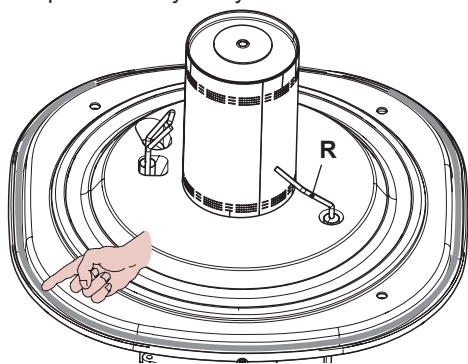
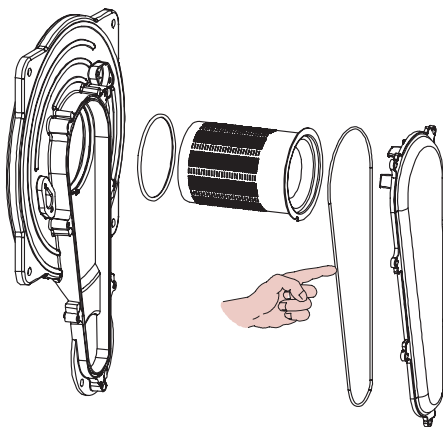

Fig. 10.10
Fig. 10.11
- The silicon seal on the front wall of the combustion chamber Fig. 10.10 and the seal on the air/gas pipe cover (Fig. 10.11) must be replaced if worn. They must be replaced every two years.
- The detection electrode **R** in Fig. 10.10 also functions as a sensor for the correct drainage of the condensate. Should the mentioned electrode come into contact with the condensate water present within the combustion chamber it sends the boiler into safety lockout. Therefore, should the insulation be wet or deteriorated, provide for the substitution of the same.
Caution: After any periodical servicing or disturbance the combustion chamber silicon seal Fig. 10.10 and the Air-gas duct gasket (Fig. 10.11) must be fully inspected and replaced at the discretion of the service engineer.